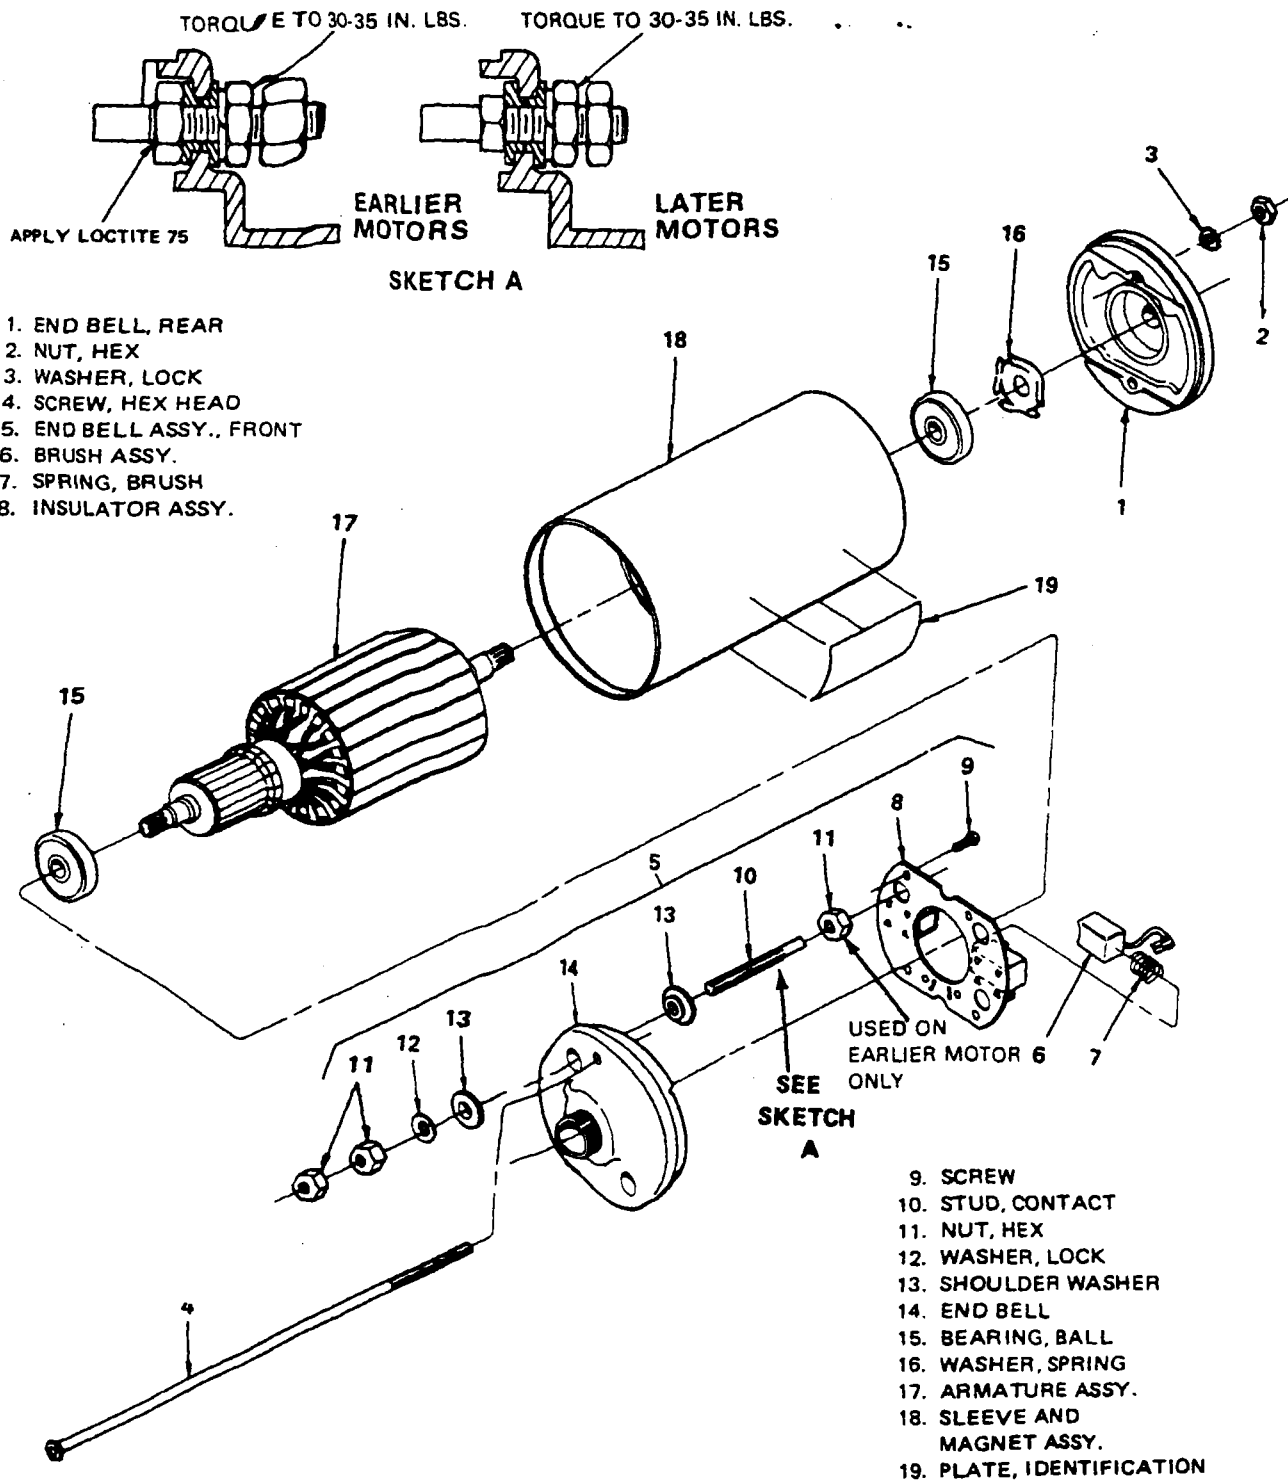

Figure 5-19. Motor Assy, Exploded View
5-72. DISASSEMBLY OF FLAP ACTUATOR MOTOR. (Refer to Figure 5-19.)
5-74 ASSEMBLY OF FLAP ACTUATOR MOTOR. (Refer to Figure 5-19.)
- a. Assemble shoulder washers (13), contact studs (10), lockwashers (12) and nuts (11) to front and bell. Position flat on contact studs parallel to the side of the brush holder. On early models, apply Loctite 75 adhesive to inner nut (11). (See Sketch A of Figure 5-19.) Torque outer nut (11) to 30-35 inch pounds.
- b. Install insulator assembly (8) on front end bell and secure with 4 screws (9).
- c. Install brush springs (7) and brushes (6) into brush holders. Position brush leads through slot towards center of end bell and connect to contact studs.
- d. Attach ball bearings (15) to each end of the armature shaft.